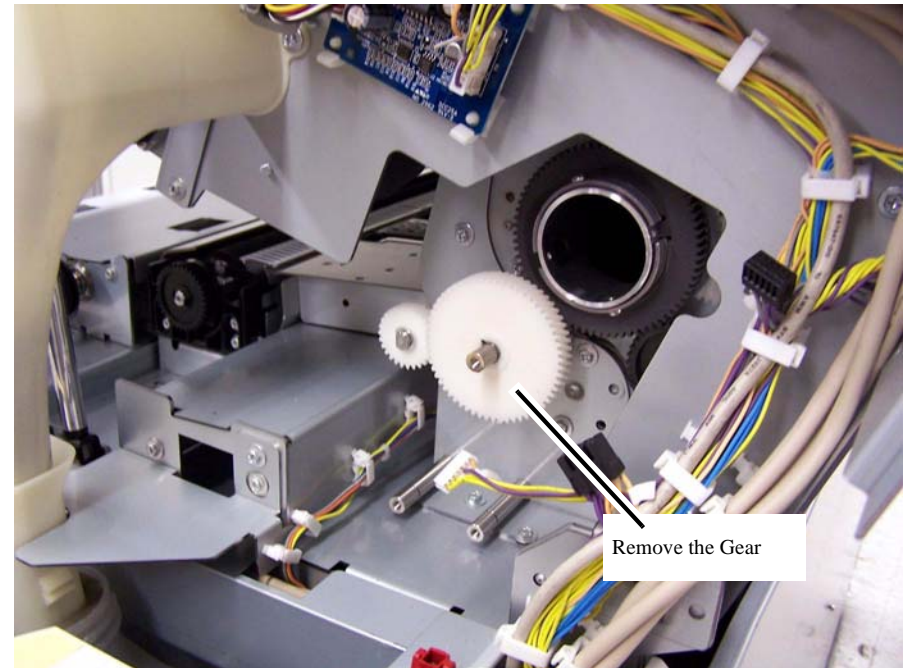

Figure 3 Remove the Gear
12. Remove the Gear (59/46) by sliding it off the end of the shaft (Figure 3).